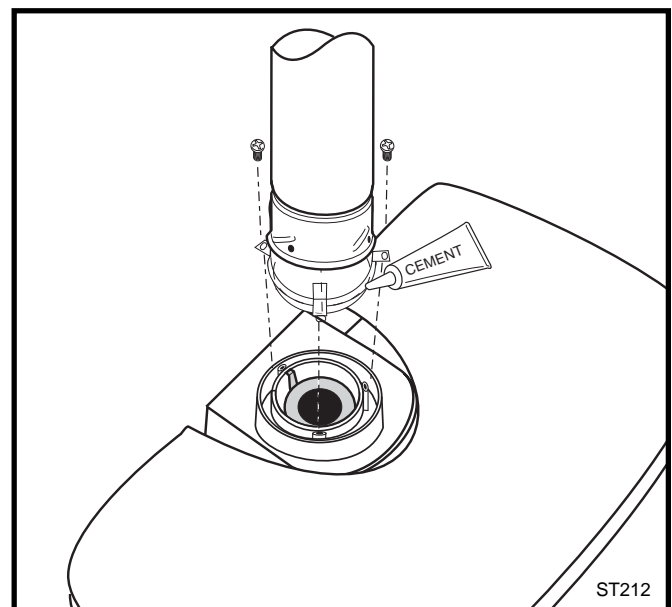

Fig. 24 Attach inner assembly to flue collar.
- Run a bead of sealant around the bottom end of the starter pipe and attach the assembly to the stove using three 1/4-20 x 3/8" Phillips screws provided in the parts bag. (Fig. 24)